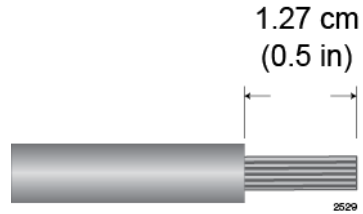

Figure 132. Stripping the Power Wires
1. Prepare adequate lengths of two stranded 8 AWG power wires by stripping them as shown in Figure 132 on page 209.